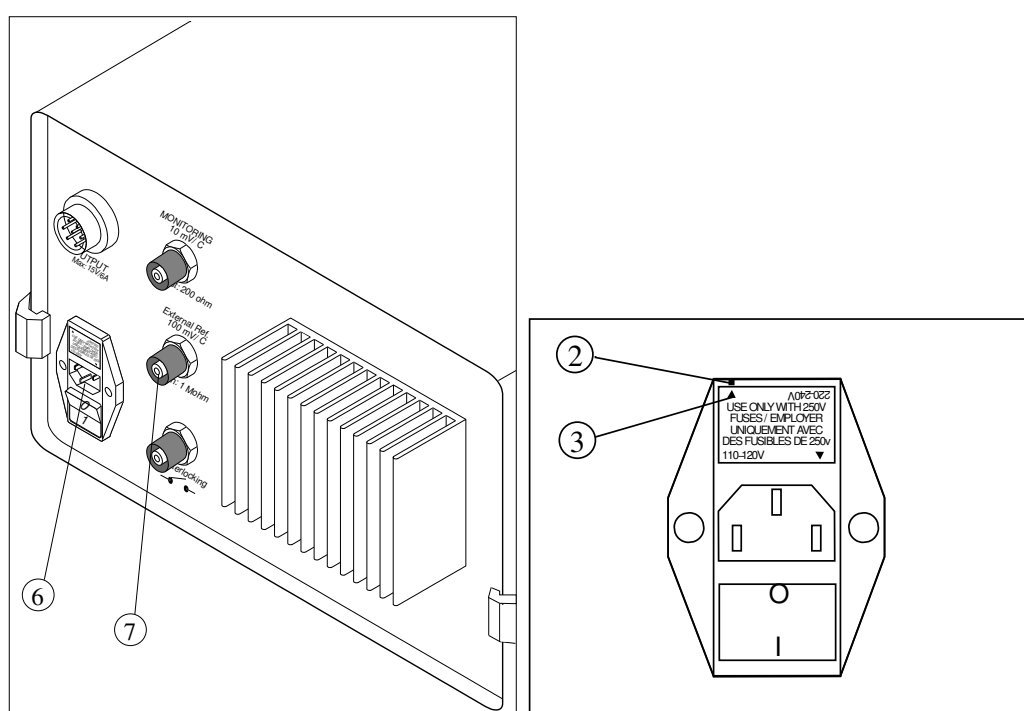

Figure 3.4.: TCU installation: rear panel (left), fuse holder (right).
4. check that the temperature controller voltage setting is appropriate. For the TC-3, the procedure to change the fuse is outlined in the TC-3 manual. For the TCU, follow the following procedure: the fuse holder (6) on the rear panel shown in figure 3.4 should be set to 100-120V and 60 Hz for North America, 220-240